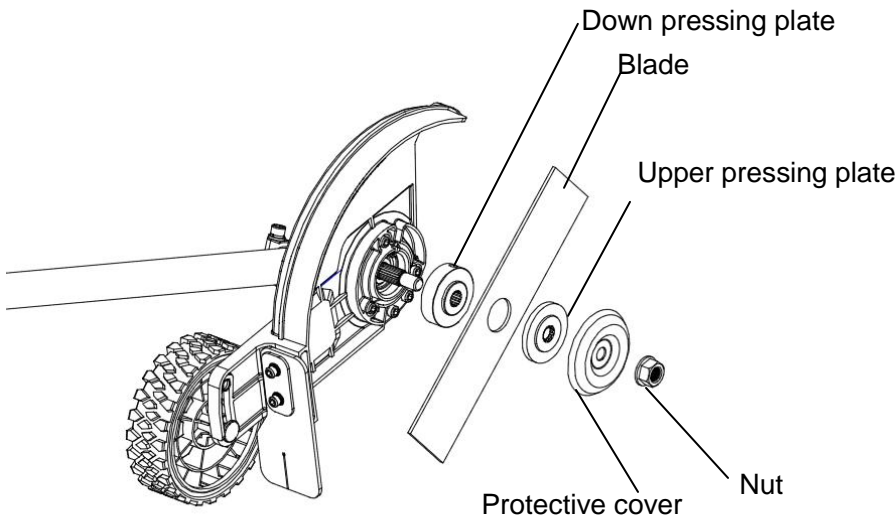

Fig. 30C
5. Remove the nut, protective cover, upper pressing plate, blade and down pressing plate from the motor shaft (Fig. 30C). Check and replace them if they are worn.